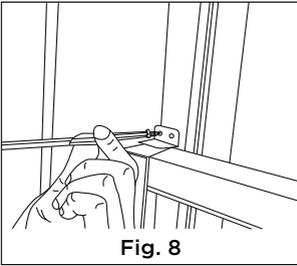

Fig. 8
6. To secure lower sash in place, attach right angle sash lock with 3/4" (19mm) or 1/2" (12.7mm) screw as shown (Fig. 8).